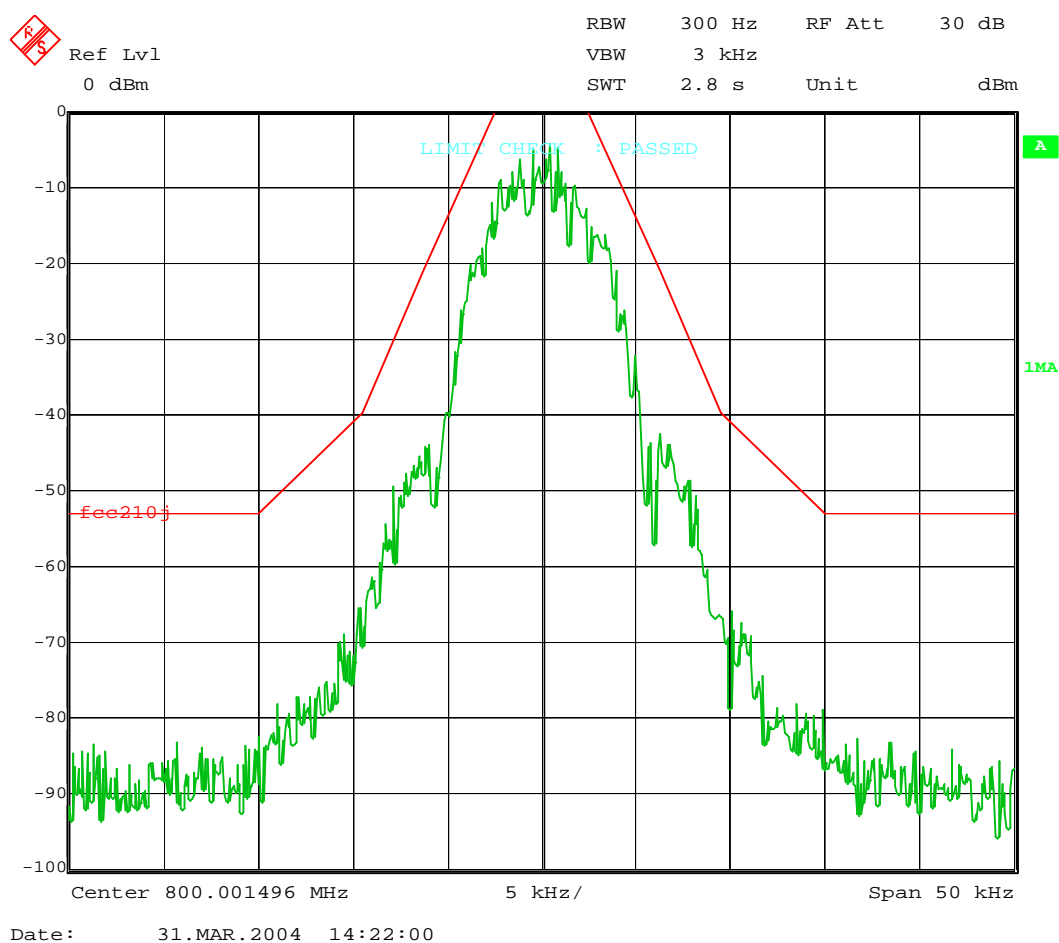

Figure 23 Modulation from CMX990 with 47 CFR 90.210 (J) emission mask
The timing of the turn-on of the transmitter needs careful control. Typical timings are shown in Figure 23. The first step is to program the IF and RF synthesisers to the correct frequencies for the desired transmitter channel. When time has been allowed for the PLL's to lock the transmitter circuits (excluding the PA) should be enabled. Depending on the leakage through the PA the OPLL should start to lock up. The limiter has been designed to start to lock with a signal 81dB below the maximum operating power. For a +35dBm transmitter this is -46dBm or 10dB below the common spurious emissions limit of -36dBm. The loop should lock quickly and power ramping can start before the loop is fully locked. If leakage
The modulation of the CMX990 is produced digitally ensuring excellent accuracy and adjacent channel characteristics. The design meets EN 300 113 requirements in Europe and 47 CFR 2.1049 & 90.210 (J) applicable in the USA (Figure 23).